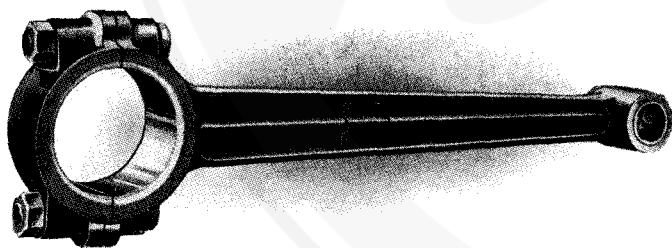

Fig. 5. Connecting Rod.
*The Connecting Rods* Fig. 5 are stampings in high tensile steel machined all over to a uniform weight. The big end is lined with a white metal bearing cast under pressure, a process which ensures effective adhesion of the white metal to the surface of the rod and a density of structure in the bearing metal giving great durability. The small end is bushed with a hard alloy phosphor bronze. Oil is conducted from the crank pin bearing to the small end bearing by means of a steel tube which is secured in the rod before the insertion of its bearings.